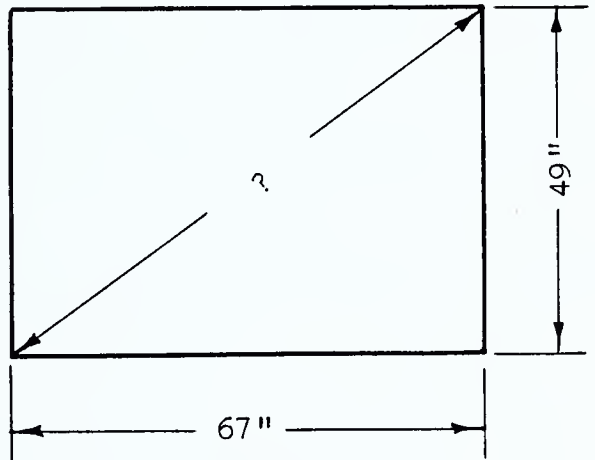

FIG 605
**PROBLEM:** Find the distance from corner to corner (diagonal) of the rectangular plate shown in Fig. 605.